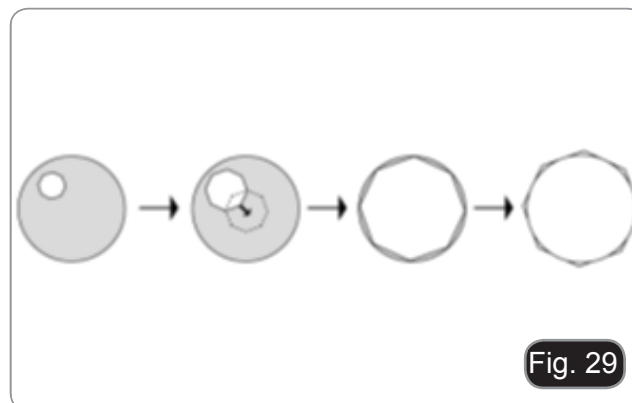

Fig. 29
4. Gradually open the diaphragm by inserting the lever ①. The diaphragm is centered when the diaphragm image is symmetrical to the field of view. (Fig. 29)